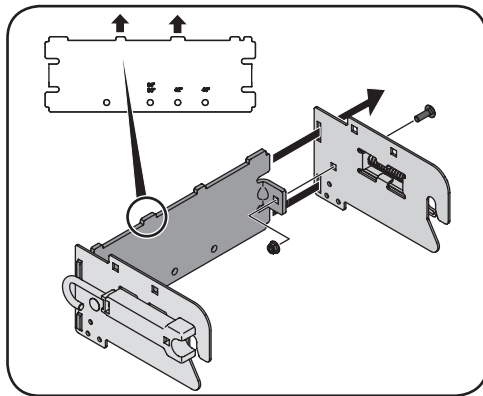

Figure 1-1
1. Insert the ends of the rear support bracket through the narrow slots at the rear of each side support bracket. See Figure 1-1.
2. Secure folded tabs on rear support bracket to side support brackets with a carriage screw (ref. #9) and nylon lock nut (ref. #11). See Figure 1-1.
**NOTE:** The latches on the side support brackets must be positioned with the opening facing down on the outside of the bracket and the tabs on the rear support bracket must be facing up. See inset in Figure 1-1.